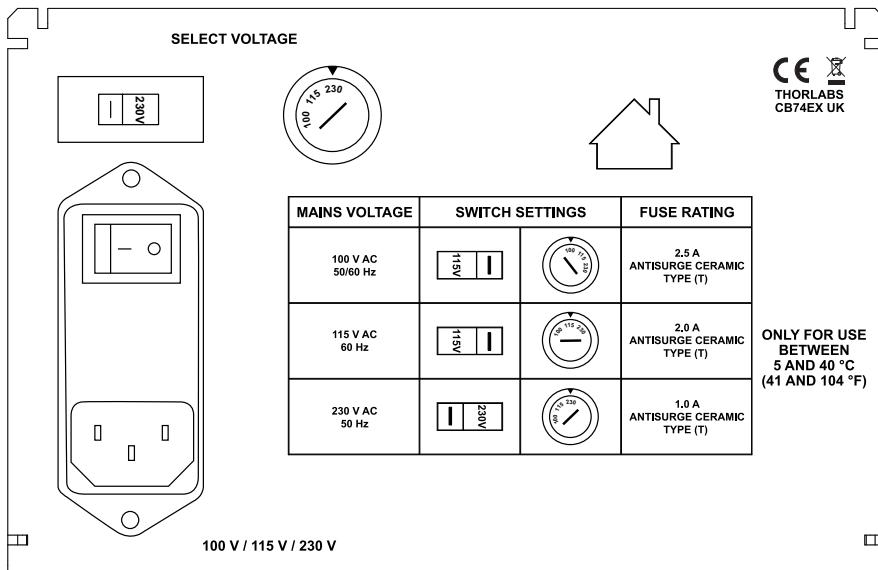

Fig. 3.5 Rear Panel
- 1) Connect the power cord to the socket on the rear panel of the unit - see Fig. 3.5.